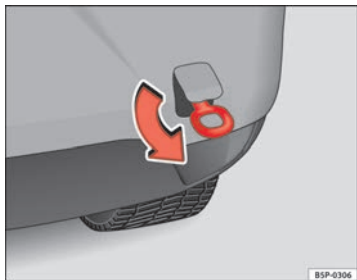

Fig. 208 Fitting the towing eye to the rear of the vehicle
- Screw the towing eye *anti-clockwise*, in the direction of the arrow, to the limit position in the front ⇒ fig. 207 or rear ⇒ fig. 208 threaded hole. ■